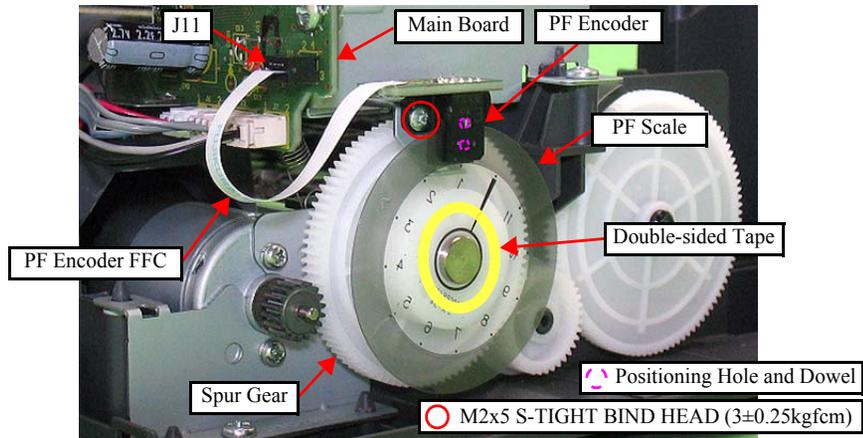

Figure 4-41. Removing the PF Encoder/ PF Scale
- When installing the PF Encoder, be sure to align the dowels in the rear side of the PF Encoder with the positioning holes of the PF Motor. (See Fig.4-41.)